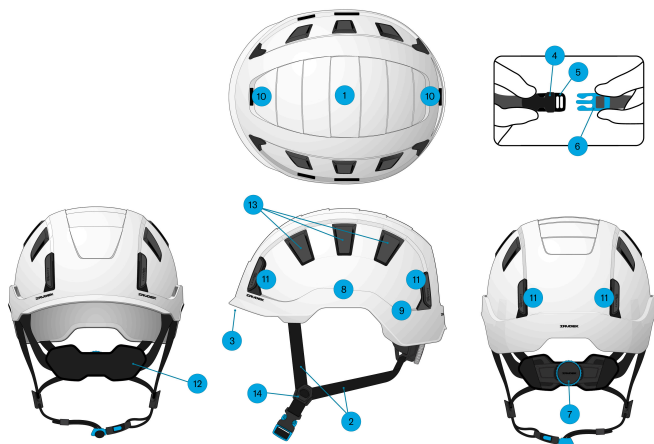

Fig. 1
1. Before fitting, turn the adjustment system counterclockwise until it reaches its maximum size. Place the helmet on the head and adjust to the size of the user's head by turning the adjustment system clockwise to tighten and counterclockwise to loosen. (Fig. 1).